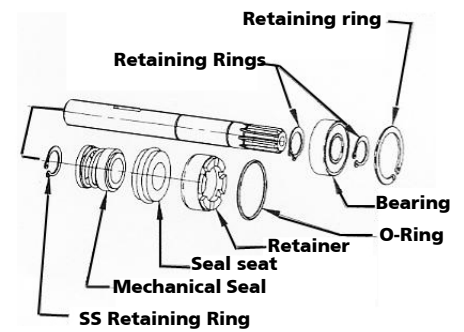

Figure 9-Shaft and Seal Assembly
5. With light to moderate pressure, press ceramic seal half firmly and squarely into seal cavity (See Figure 9). If seal will not seat correctly, remove, placing seal face up on bench. Re-clean cavity. Seal should now seat correctly. If seal does not seat correctly after re-cleaning cavity, place a cardboard washer over polished seal face and carefully press into place using a piece of standard 3/4" (19mm) pipe as a press.